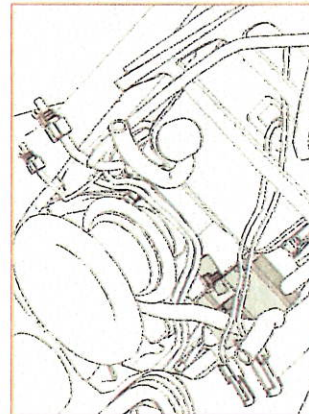

Figure 14
9. Disconnect the ignition coil lead. Lift the harness away from the throttle body, cutting any remaining cable ties as you go, and lay the harness over the right side of the frame. (Figure 14,15)